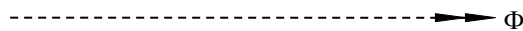

Figure 14
Step 3: Draw the phasor diagram to determine the primary current, by taking the phasor addition of the no-load current and the load component of current. See figure 14.